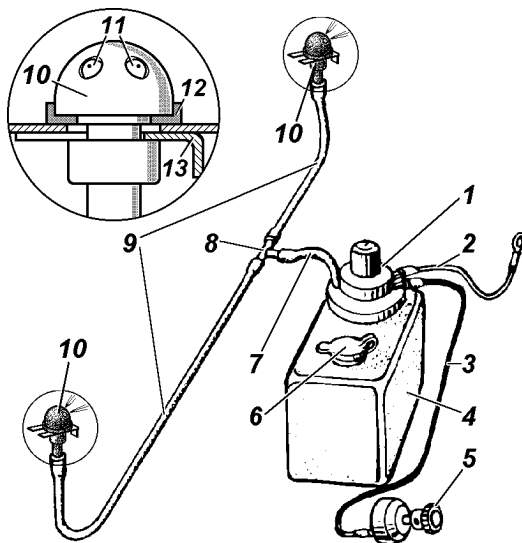

Fig. 76. Electric washer:
**Washer** (Fig. 76). The electric washer is intended for high-speed cleaning the windshield.